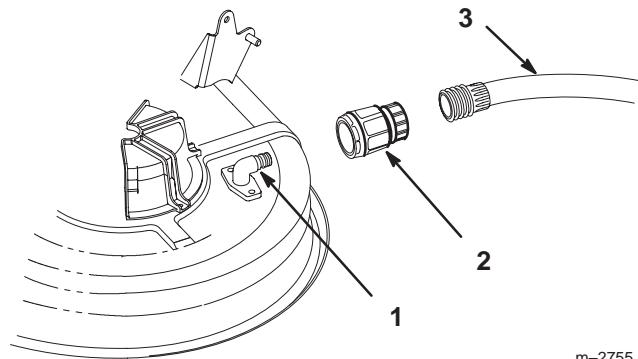

Figure 52
2. Screw the coupling to the end of a garden hose, attach the coupling to the mower washout fitting, and turn the water on high (Fig. 52).